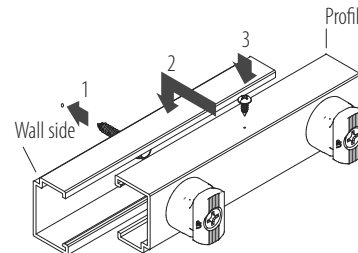

Figure 3b
- Align and interlock the profile side rail so it is flush with the wall side rail. (Figure 3b)